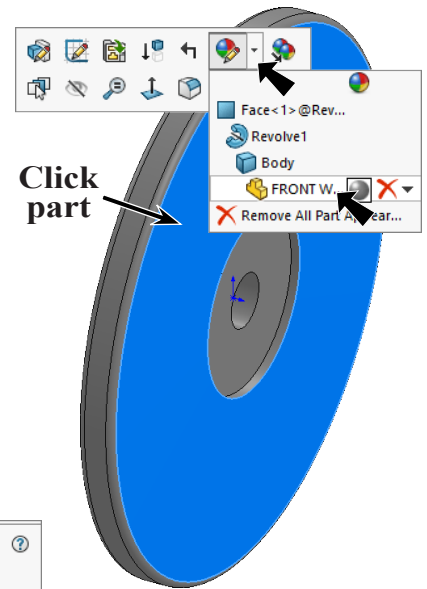

Fig. 16
Step 1. Click the Wheel to select the part, click **Appearances Call-out**  on the context toolbar and click **FRONT W...** , **Fig. 16.**